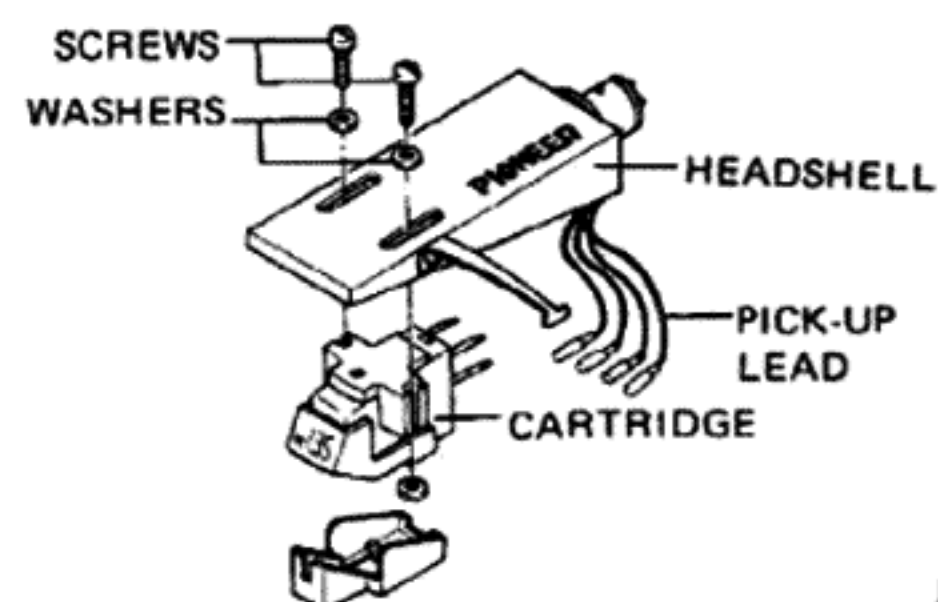

Fig. 1
3. Fit cartridge to headshell (Fig. 1), but do not tighten the mounting screws yet.